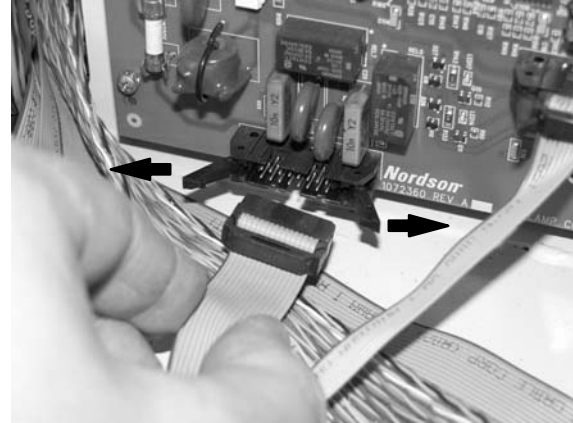

Figure 3 Remove Cover Screws
2. See Figure 3. Remove the six M5 screws from the power supply cover. Remove the cover and set it aside.